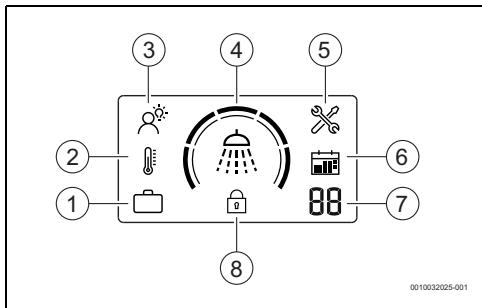

Fig. 5 Display controller assembly
- Press the  key until SMART mode appears on the display (→ Fig. 5 [3]).
- Press the  key until Manual mode appears on the display (→ Fig. 5 [2]).
- Press the  key until Vacation mode appears on the display (→ Fig. 5 [1]).
- Press the key  to set the desired number of vacation days (→ Fig. 5 [7]).
This function locks the control panel (\rightarrow Fig. 5 [8]).